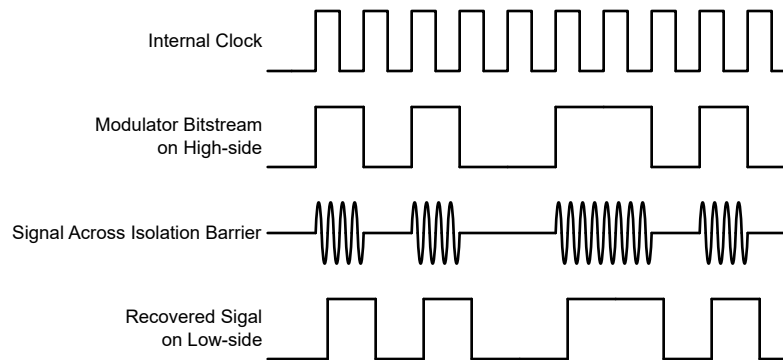

Figure 7-1. OOK-Based Modulation Scheme
The AMC1301 uses an on-off keying (OOK) modulation scheme, as shown in Figure 7-1, to transmit the modulator output bitstream across the SiO₂-based isolation barrier. The transmit driver (TX) shown in the Functional Block Diagram transmits an internally generated, high-frequency carrier across the isolation barrier to represent a digital *one* and does not send a signal to represent a digital *zero*. The nominal frequency of the carrier used inside the AMC1301 is 480 MHz.